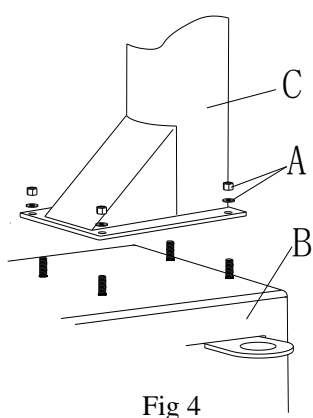

Fig 4
2. Unscrew the nut A on the machine body B as shown in Fig 4. Lift the column C; mount it on the machine body B by using the nut A through the bolt located on the machine body B. If the column becomes loose after a period of using, tight them immediately. Otherwise the result of damage to the tyre may happen.